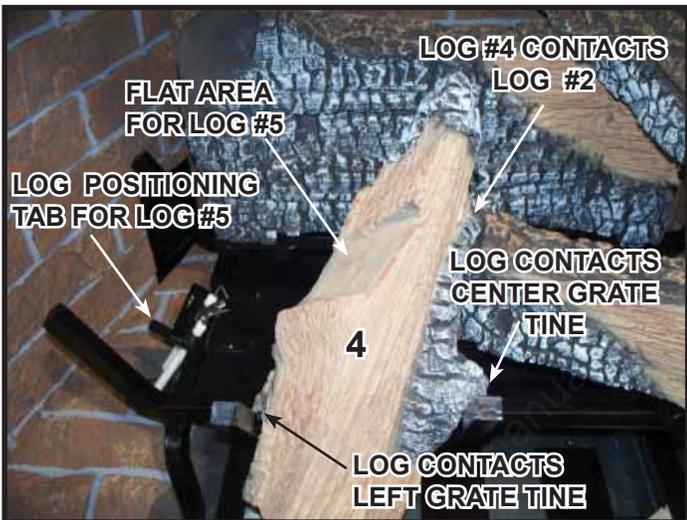
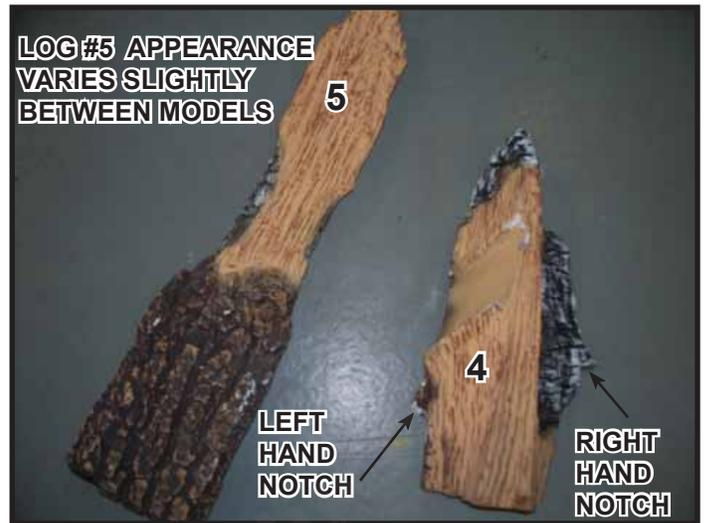

Figure 8.
Figure 7.
**Log #4 (2280-704 for TRUE-36; 2281-704 for TRUE-42):** See Figure 7. Place Log #4 between the left and center grate tines. Notches on log will rest on tines. Log should be positioned as far forward as possible. See Figure 8. Log #4 will lean against Log #2.
**Log #5 (2280-705 FOR TRUE-36, 2281-705 FOR TRUE-42):** Locate flat area on Log #4 that will be used to position Log #5. See Figure 8. Place Log #5 into appliance as shown in Figure 9 or Figure 10. Left end of log should rest against left side refractory just in front of air inlet on rear, lower left of appliance.